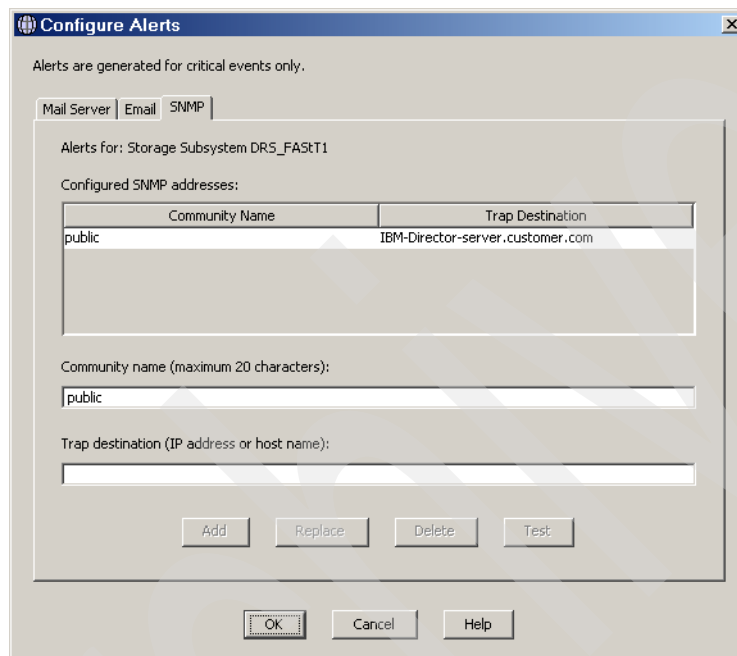

Figure 10-10 SNMP trap destination
1. In the DS4000 Storage Manager client Enterprise Management window (Figure 10-10), select **Edit** → **Alert Destinations**, and then set the **SNMP**.